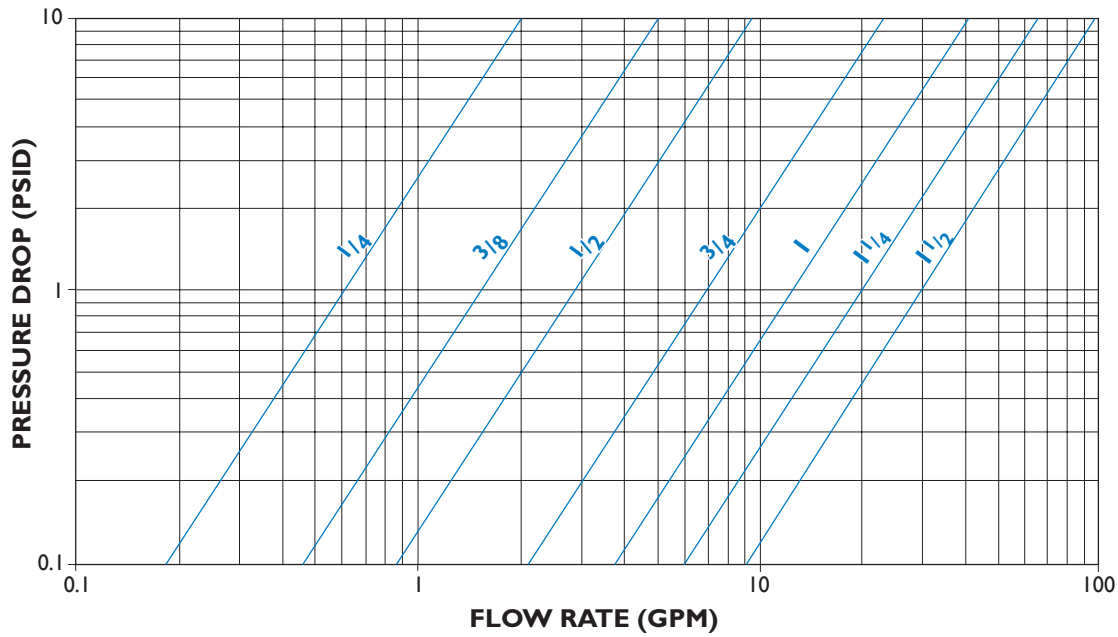

FIGURE 1
*Multiply values obtained from figure 1 thru 4 by the appropriate values shown below
- 1) Using figures 1 or 2 determine the pressure drop (P1) through the strainer with water flow and standard screens.
- 4) Using Chart #2 multiply P3 by the appropriate Component Factor (CF) to get P4.
- 6) Multiply P4 by the appropriate Body Loss Factor (BF) in Chart #3 to get P6.